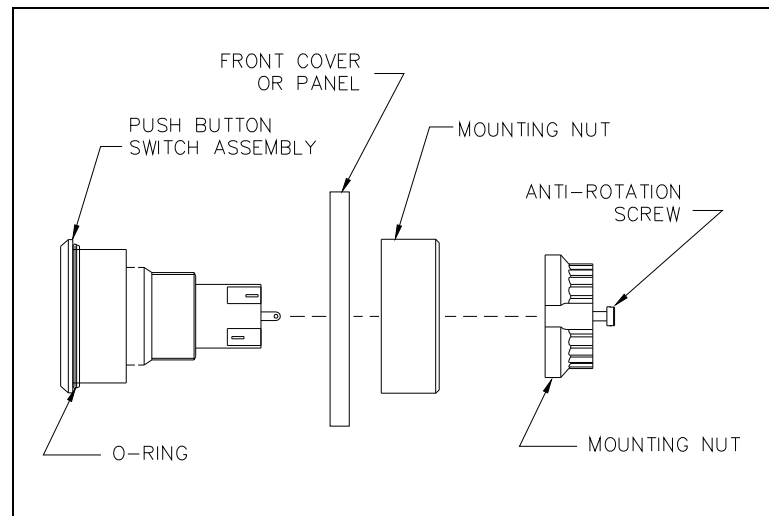
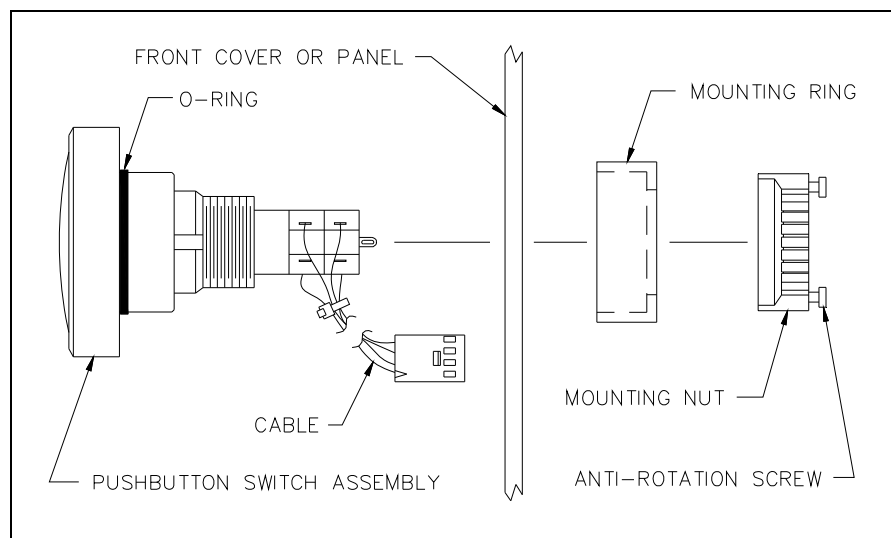

Figure 1. Push-Button Switch Assembly, Exploded View
Figure 2. Push-Button Switch Assembly, Exploded View
8. Using the appropriate screwdriver, loosen the anti-rotation screws on the mounting nut. See Figure 1 and Figure 2.
1. From the front side of the panel, push the new push-button assembly through the hole. See Figure 1 and Figure 2.
2. Secure the push-button assembly to the front cover using the mounting ring and the mounting nut. See Figure 1 and Figure 2.
NOTE: Ensure that the O-ring seal is in its proper location, as shown in Figure 1 and Figure 2.
2. Secure the push-button assembly to the panel using the mounting ring and the mounting nut. See Figure 1 and Figure 2.